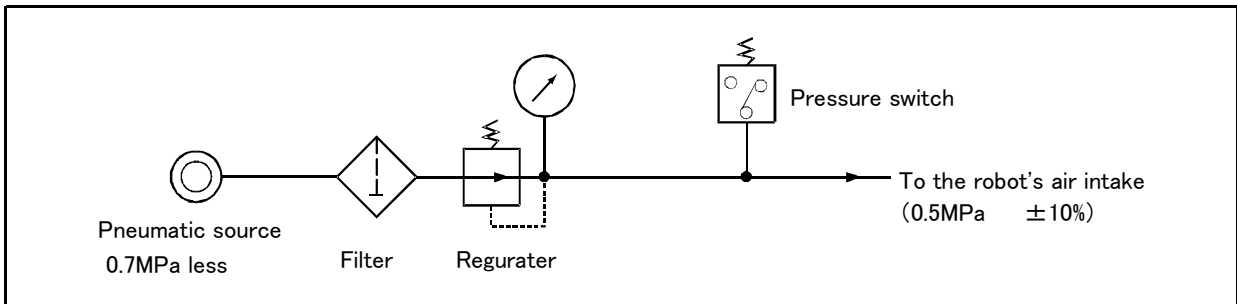

Fig.2-10 : Air supply circuit example for the hand
Fig. 2-10 shows an example of pneumatic supply circuitry.
- (1) Place diodes parallel to the solenoid coil.
- (2) If the factory's air pressure decreases, it may adversely affect the actual operations. As a preventive measure, attach a pressure switch to the air source as shown in Fig. 2-10 so as to make the circuit stop the robot in the event of air pressure drop. If the pressure switch does not improve the situation, use a device equipped with a mechanical lock mechanism or a mechanism that clamps by spring pressure.
- (3) The optional hand and solenoid valve are of an oilless type. If they are used, don't use any lubricator.
- (4) Supply clean air to the vacuum generation valve when you use clean type robot.